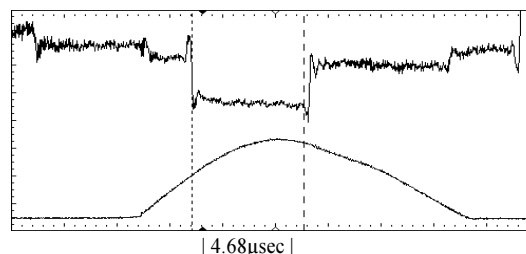

Fig. 1 - Horizontal Phase Adjust
4. Adjust *Horizontal Phase* (parameter #4) so that the time delay between the leading edge of horizontal sync (CH1) and the midpoint of the filament pulse (CH2) is 4.68µsec ( $\pm 0.5\mu\text{sec}$ ), as shown in Figure 1.